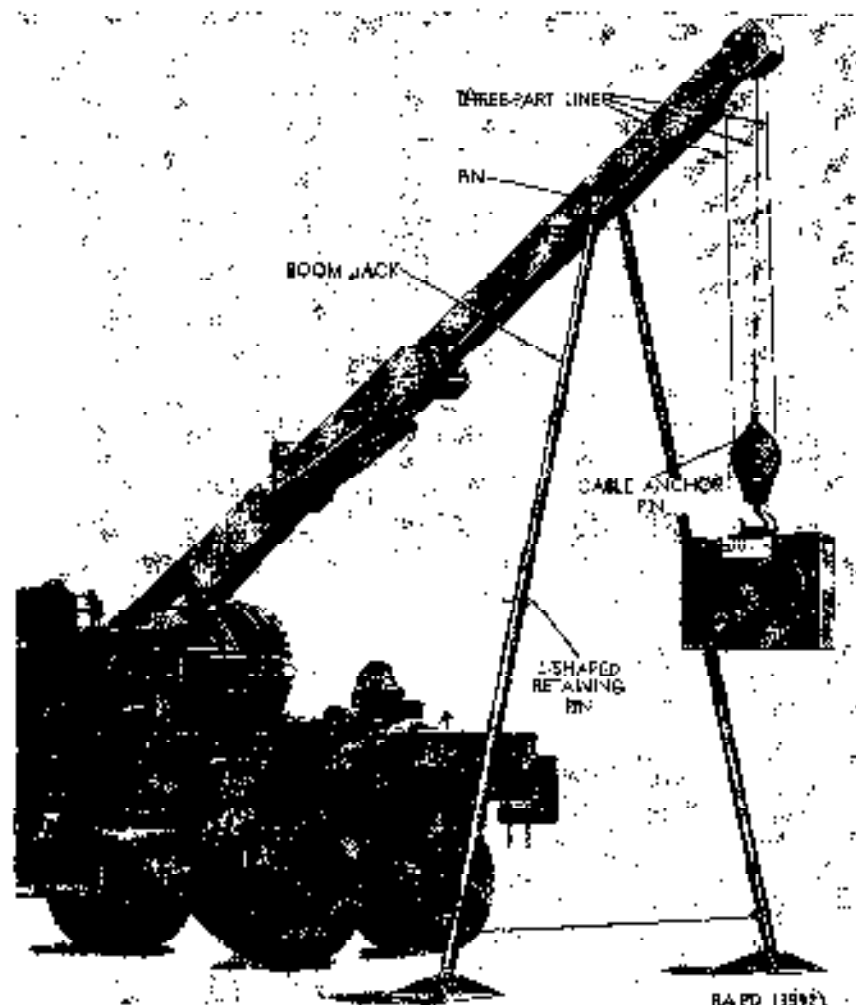
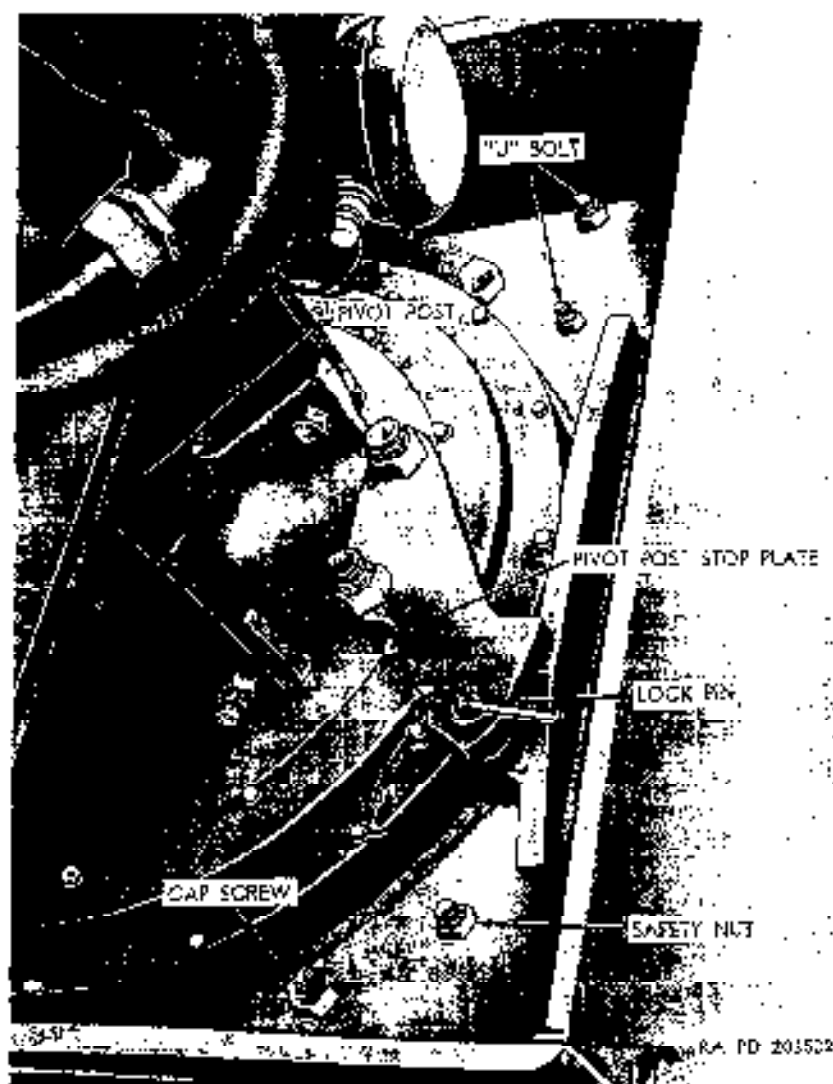

Figure 82. Boom jacks installed (MCP).
Figure 83. Lower section of crane pivot post and base plate (MB30) - left rear view.
- (h) *Boom jacks.* Two adjustable boom jacks (fig. 82), one for each side of the boom assembly, are provided for supporting the boom from the ground for heavy (20,000 lb. maximum) side lifts or rear lifts as shown on the safe load instruction plate (fig. 42). When not in use, the boom jacks are stowed in the storage box mounted on the crane platform to the left of the pivot post and boom assembly.
- (a) A large safety-tread platform (fig. 78) surrounds the crane revolving structure, with access grips and steps (fig. 82) at each end of the crane body.
- (k) *Boom jacks.* To rig the boom jacks (provided in stowage box mounted on the crane platform to the left of the pivot post and boom assembly), lower the boom and extend it (a)(4) (d) above) to expose the holes for the boom jack pin (fig. 82). With boom in the horizontal position, secure the boom jacks to the boom with the pin provided in stowage. Elevate the boom and align the holes in the boom jack inner and outer members. Insert retaining pins (fig. 83) in boom jacks to maintain extended positions. Lower the boom slightly to remove the load from the boom hydraulic elevating mechanism.
- (1) *Two-part line (fig. 83).* To rig a two-part line, pass the crane hoist cable over one of the boom sheaves, around the crane block sheave, and secure the cable end to the boom head with the cable anchor pin.